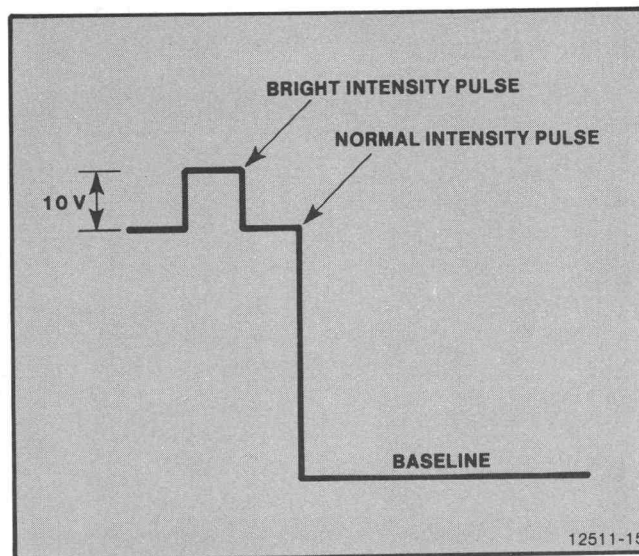

Figure 4-15. Brite Intensity Pulse.
3. **Adjust** R715 (the Brite Intensity control, at the lower corner of the High Voltage and Z-Axis board) to 10 V higher than the NORMAL INTENSITY adjustment. See Figure 4-15.